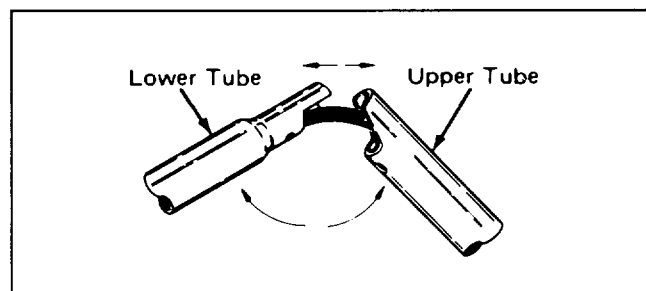

Figure 2
- Thoroughly inspect the open internal wiring (Fig. 2) before assembling trimmer. If wiring is damaged, do not assemble or plug in trimmer. Contact your TORO Authorized Service Dealer.**
2. Pivot tube ends until aligned (Fig. 2).